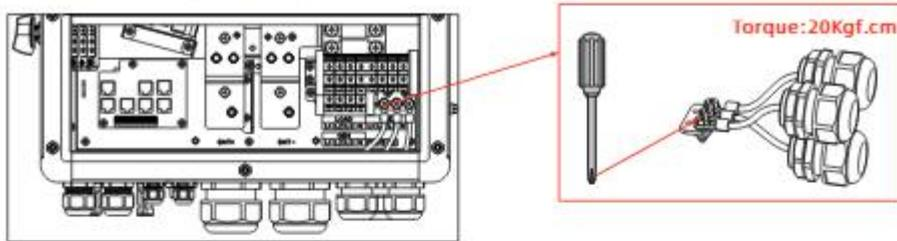

Fig 6.10 Grounding Schematic
2) Connect a ground cable to the copper grounding bar. Fig 6.10 shows the position of the grounding bar;
1. Connect the ground cable before connecting the battery cable; the ground point is shown in Fig 6.10.